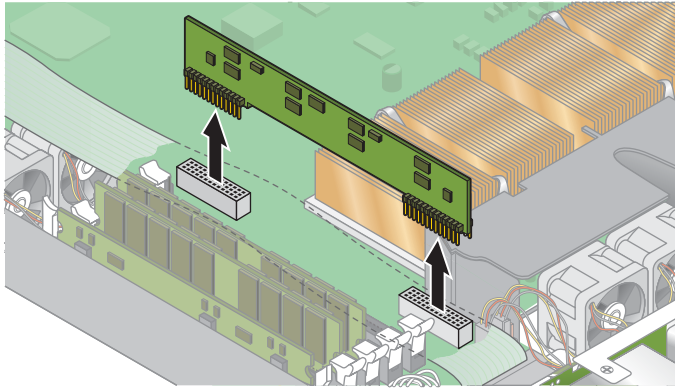

FIGURE 4-10 Removing the CPU 1 VRM
5. Remove the CPU VRM for CPU 1 (left-hand CPU) by pulling it straight up, out of its sockets (see FIGURE 4-10).